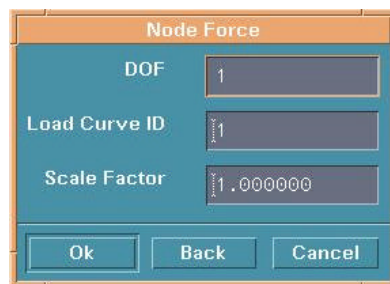

Figure 6.7.3 Define Node Force
- Define node force see Figure 6.7.3.
- Select OK in Figure 6.7.3 to select the nodes to load. See Figure 6.4.2 for selecting nodes.
- Select CANCEL in Figure 6.7.3 to exit.